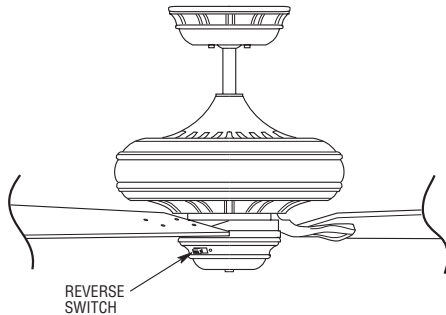

Figure 19
- 3. All fans are shipped from the factory with the reversing switch positioned to circulate air downward. If airflow is desired in opposite direction, turn your fan OFF and wait for the blades to stop turning, then slide the reversing switch to the opposite position, and turn fan on again (Figure 19).